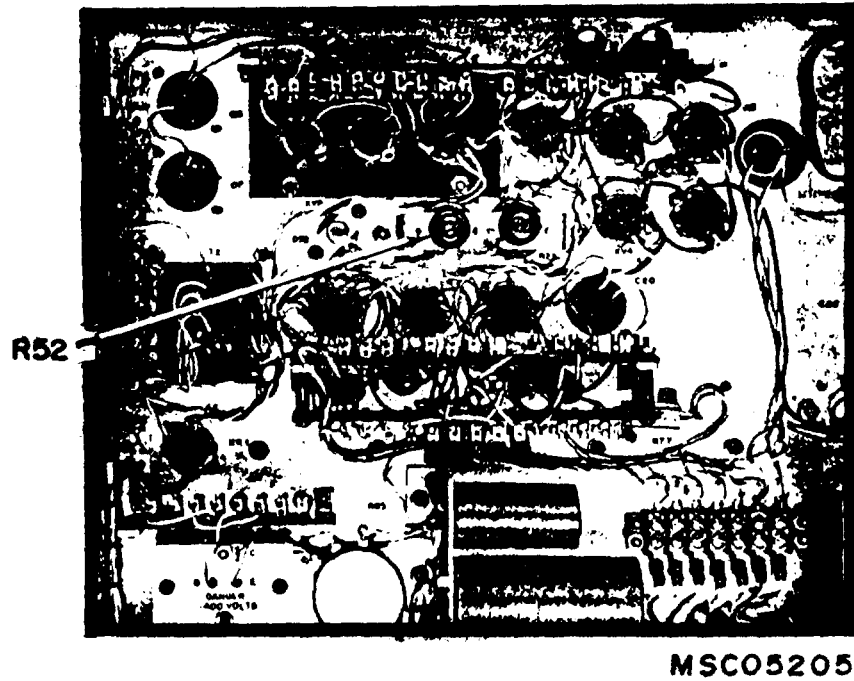

Figure 4. Test instrument - rear view.
(2) Connect frequency counter (A2) to **SWEEP OUTPUT**, using attenuator and cable (B4 and B5).. Frequency counter will indicate between 950 and 1050 Hz.
(3) Connect oscilloscope (A4) to **SWEEP OUTPUT**, using cable (B5). If signal as observed on oscilloscope display is not at least 23 V p-p in amplitude and undistorted, perform b below.
b. Adjustments. Adjust R52 (fig. 4) for minimum distortion and maximum amplitude as indicated on oscilloscope display (R).